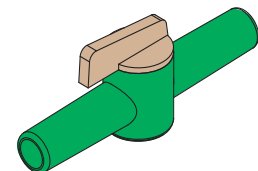

Figure 3-6 Open
10. Open the valve between the pump and the ingredient bag (*see figure 3-6*).